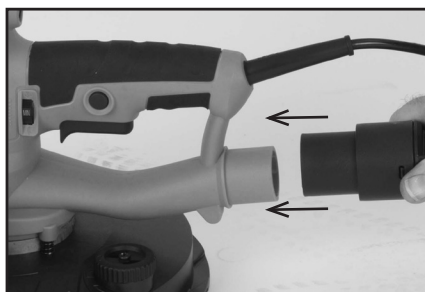

Fig. 9
- Connect the dust extraction hose to the machine by pushing it onto the machines dust extraction port. (Fig. 9).